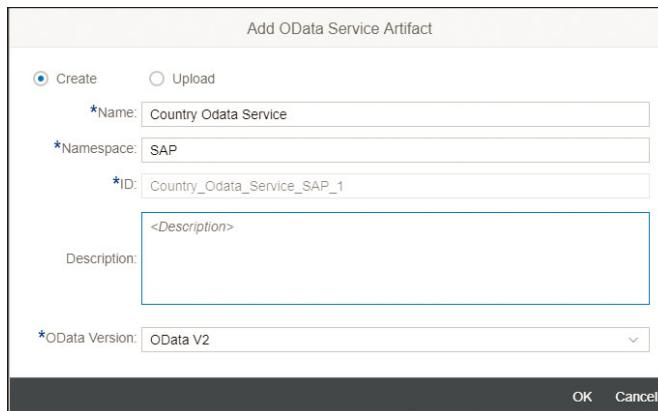

Figure 4.97 Details of the OData Service Artifact
3. Give the artifact a suitable name, such as “Country OData Service”, and leave the other fields with their default values. Note that, by default, the namespace is set with the value **SAP** (see Figure 4.97). Then select the **OK** button.